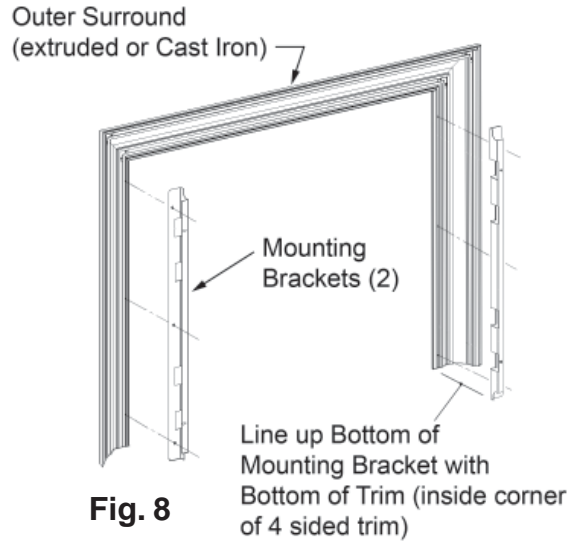

Fig. 8
1. Fasten the mounting brackets supplied with the zero clearance kit to the back of the outer trim using screws provided. **See Fig. 8.**